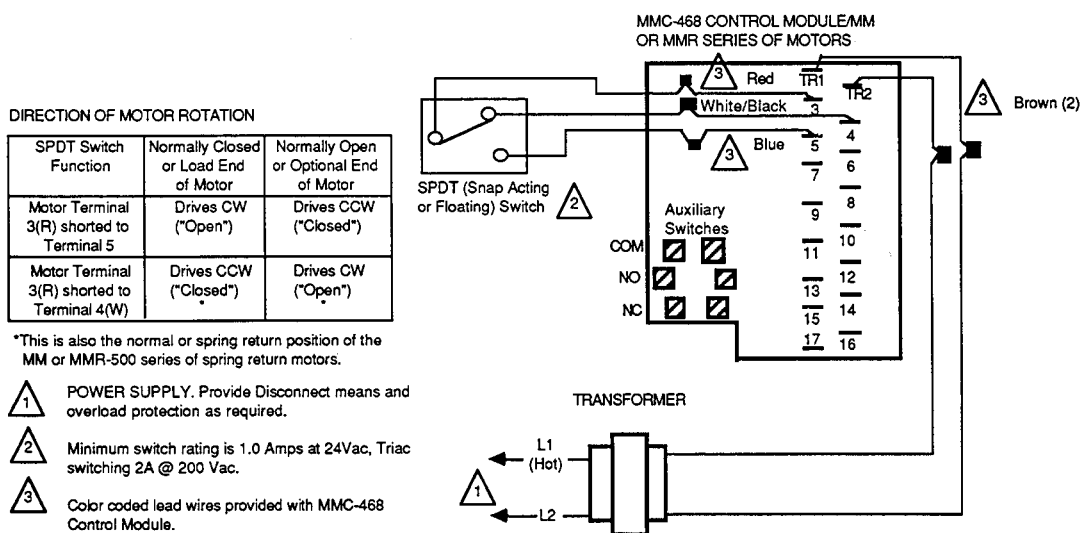

Figure-4 MMC-468 Control Module and MM or MMR Series of Motors Controlled by SPDT (Snap Acting or Floating) Switch.
**Table-5 Direction of Rotation of MM or MMR Series of Motors Versus Series 60 (SPDT Snap Acting or Floating). See Figure-4.**